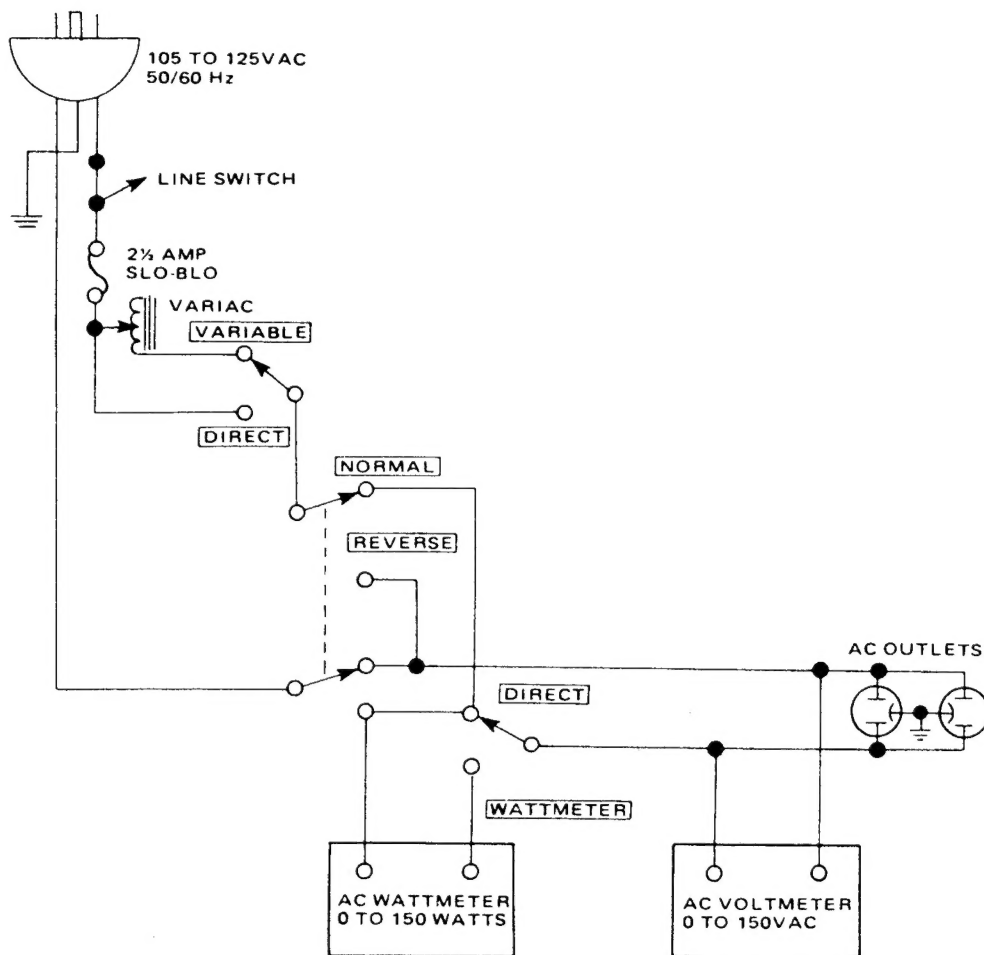
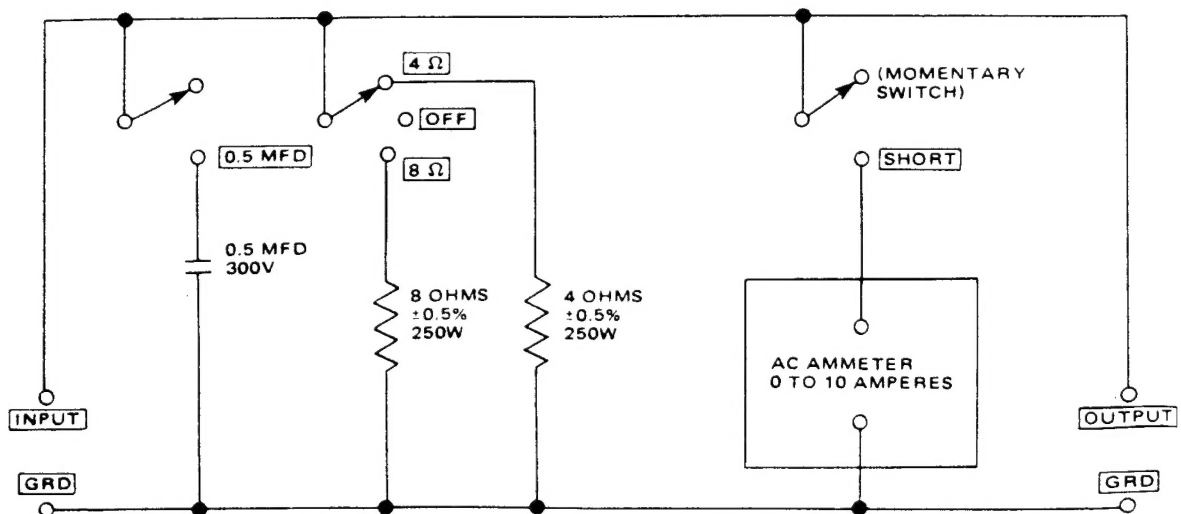

Figure 1. AC Power Control Box Simplified Schematic
Figure 2. Amplifier Output Load Box Simplified Schematic
Table 1 lists the test equipment required for servicing the Model PM225 Stereo Console Amplifier. The wattmeter, AC voltmeter, and variable autotransformer may be assembled as a test fixture as shown schematically in Figure 1. The load resistors and AC ammeter may be assembled into a second test fixture as shown in Figure 2.
1. Make the test setup shown in Figure 1 with the instrument controls set in the following positions: